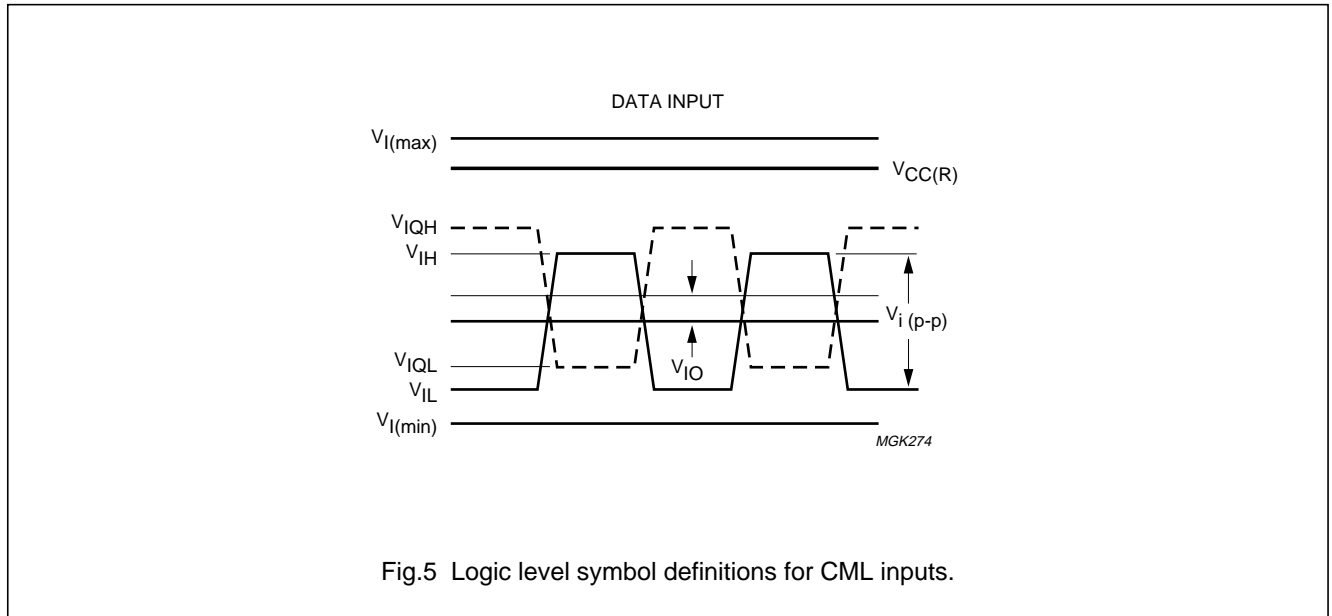

Fig.5 Logic level symbol definitions for CML inputs.
- See Fig.5 for CML symbol definitions. All CML inputs are terminated internally using 50 Ω on-chip resistors to GND.